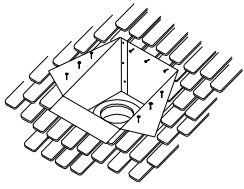

Figure 21
Box into the framed opening so the square portion projects at least 2" below the finished ceiling and rafters (bottom of round portion is 5" below, **Fig.7**), and extends above the ceiling to framing or decking materials to which it can be nailed. Level the Support Box, and slit the corners to the roofline where they extend beyond it. Bend the flaps (created by the slitting) flush with the roof, and nail the Support Box to the roof or framing with at least three (3) 8-penny nails, or (3) 1-1/2", #8 screws, per side (**Fig.21**). Be sure to keep the Support Box level. Screw the trim sections into the ceiling (**Fig.9**). Refer to step 3-A of the Ceiling Supported Installation instructions if you choose to insulate the Support Box.